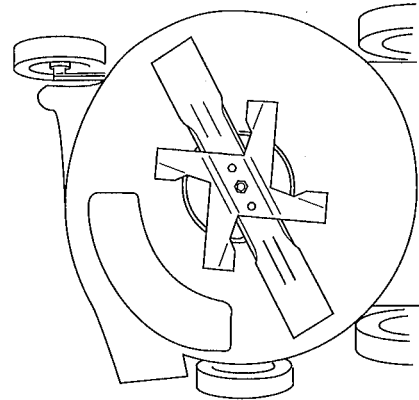

Figure 27
2. Tip mower onto right side (Fig. 27).